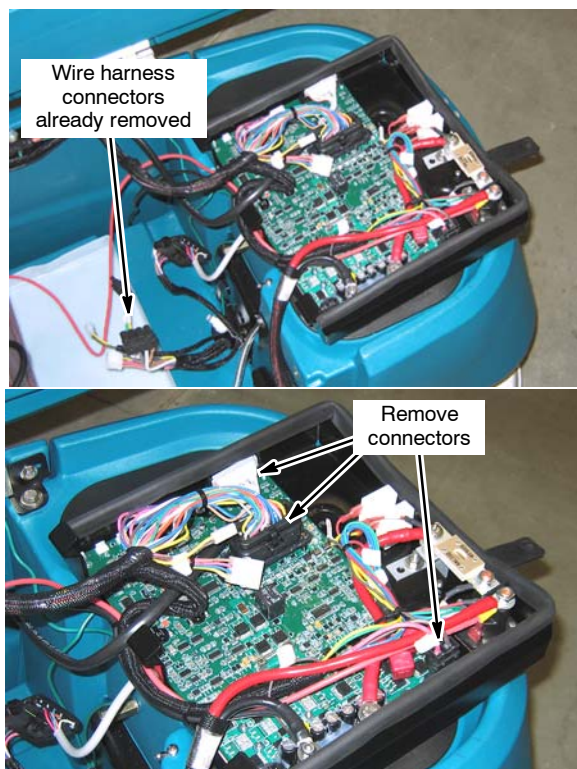

Fig. 4
3. Unplug all main harness connectors from the circuit board and lift out the circuit board box and lay it on the solution tank (Figure 4). If the machine is equipped with an on-board charger, cut the wire-tie holding the red and black charger wires in place along side the battery compartment. This will prevent any possible tension on the wires.